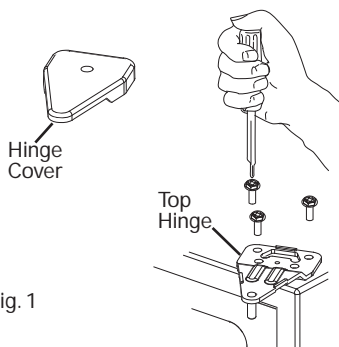

Fig. 1
1. Remove the top hinge cover. (Fig 1.)